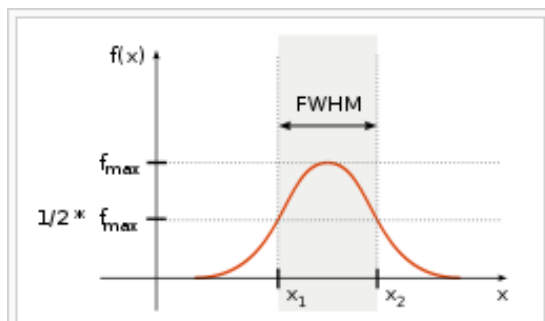
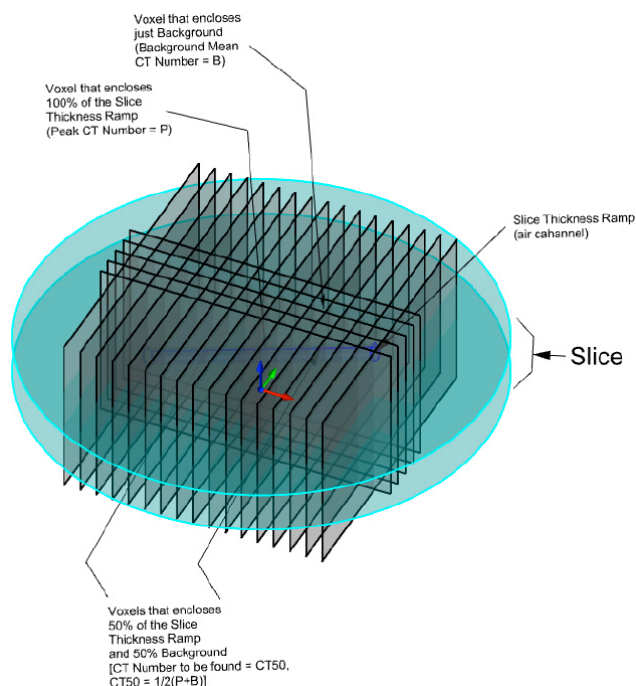

FIGURE 2. SLICE PROFILE
FIGURE 3. SLICE RECONSTRUCTION
- Slice thickness is expressed as (thickness in mm in this case) the value at “full width at half maximum value” (FWHM) (Figure 2). For slice thickness evaluations f_{\max} = largest CT number in absolute value (in this case the minimum HU value), which represents the peak of the slice thickness ramp projection, while $1/2 * f_{\max}$ is the value of the pixel corresponding to the voxel that encloses 50% from the slice thickness ramp structure and 50% background material (Figure 3).